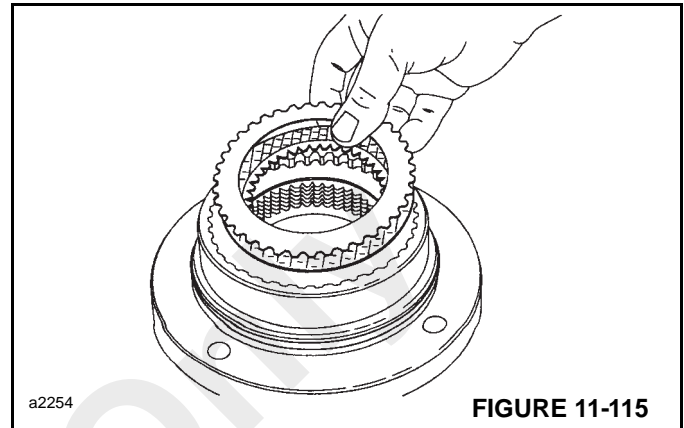

FIGURE 11-115
2. Insert first, a steel brake disc followed by a friction disc. Then, alternate steel friction discs until seven (7) friction and eight (8) steel discs have been installed (Figure 11-115). Finish with a steel brake disc on top.
3. Install the brake spacer on top of the last steel brake disc (Figure 11-115).